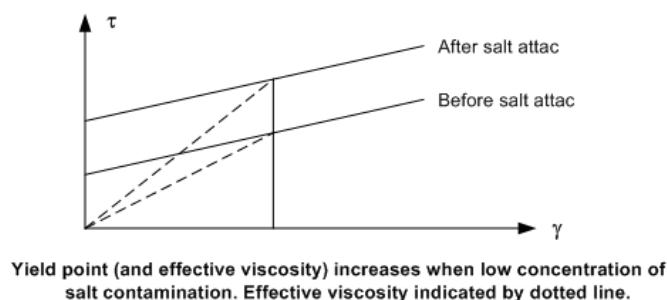

Figure 5-10. Clay behavior.
- d) Figure 5-10 shows both how a Ca attacks is changing the dispersed mud, but also how Gyp mud is made. Bentonite is composed mainly of the mineral called Montmorillonite. It is an aluminium silicate in which the silicon-oxygen sandwich is a layer of aluminium hydroxide. Some of the aluminium in the lattice structure is, during creation, replaced with ions of a lower charge (electron valence) such as magnesium (from 3 to 2). The *substitution*, without any other change of structure, creates surface negative charges in the lattice.
Gypsum is added to prevent shale swelling. When lime or gypsum is added to Bentonite-treated mud, sodium Montmorillonite will convert to calcium Montmorillonite, which first produces flocculation and eventually aggregation of the Montmorillonite (see Figure 5-10). Caustic soda is added for pH control to suppress further dissolution of Ca^{++} . Lignosulphate is added for deflocculating. CMC may be added for fluid control. Then we get gyp mud.